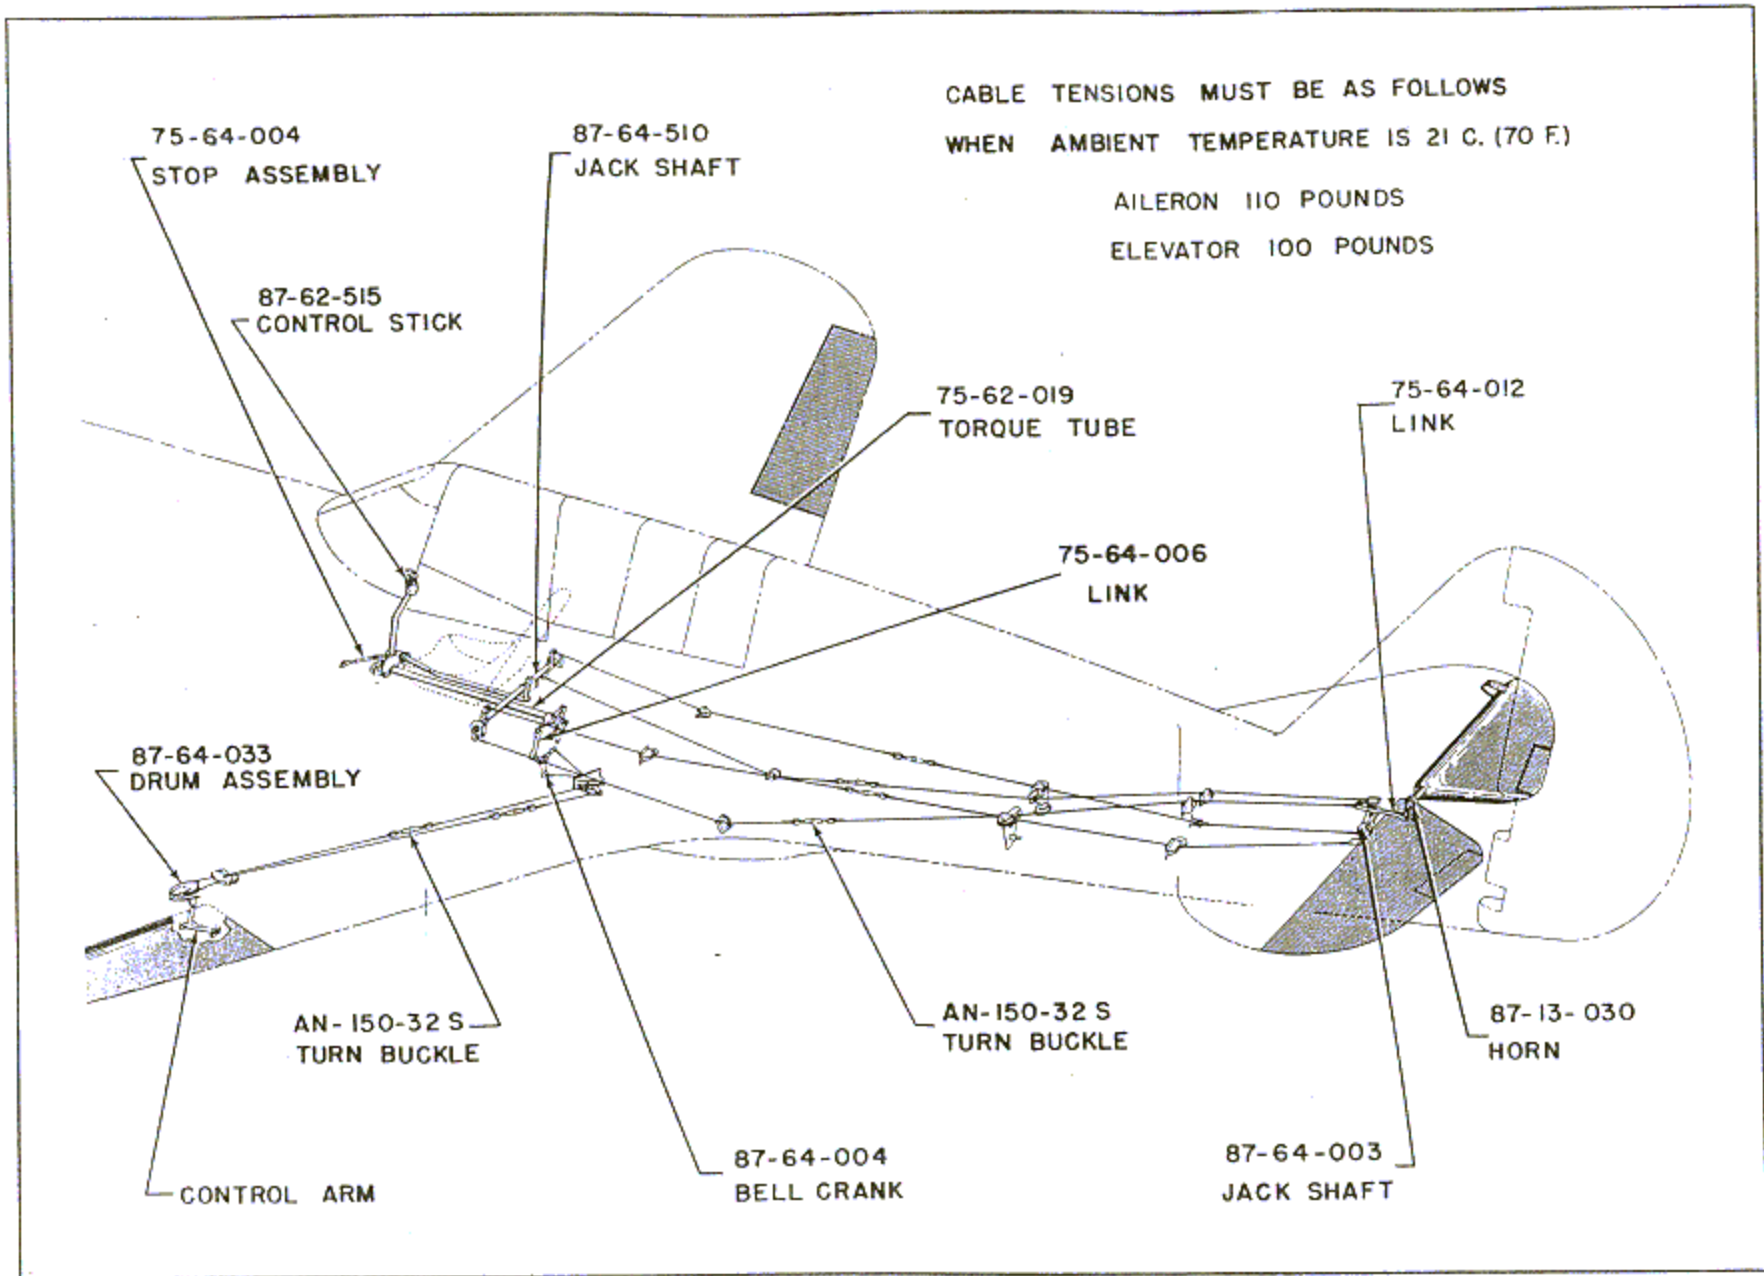

Figure 211—Aileron and Elevator Controls
(1) AILERON CONTROLS. (See figure 211.)
(2) ELEVATOR CONTROLS. (See figure 211.)